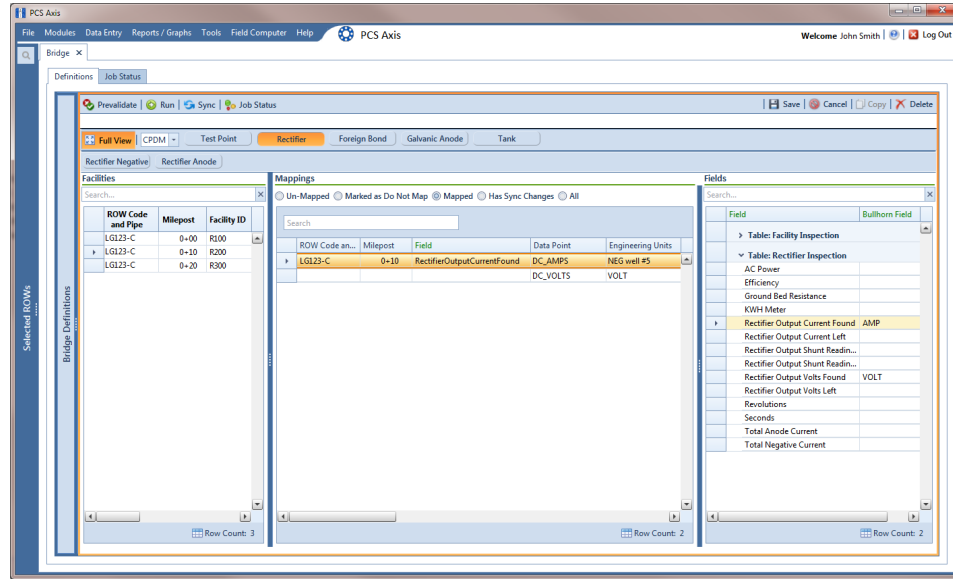

Figure 10-59. PCS Axis and Bullhorn Mappings
- 8 Click  **Save** and then click  **Full View** to hide the *Name*, *Bullhorn Token*, *Time Period*, and survey folder fields. Clicking *Full View* again displays these fields (Figure 10-59, page 547).
10 Select the type of facility data you plan to import. Click a facility type button, such as *Rectifier* (Figure 10-59, page 547).